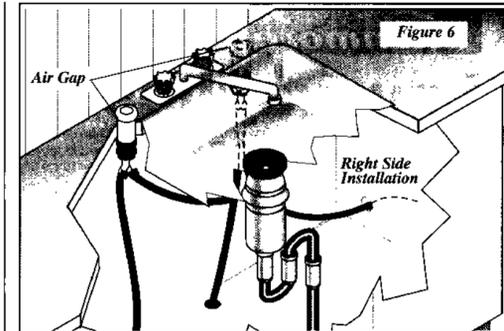

Figure 6
3. If you connect to a sink trap, local codes may require you to install an air gap kit, not included. The drain hose will be routed from dishwasher to air gap inlet as shown in Figure 6. An air gap kit is available from a plumbing supply store.